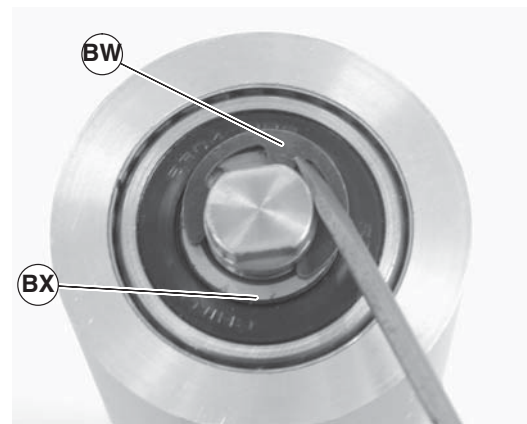

Figure 52
5. Remove the pulley shaft assembly: remove the clip ring (Figure 52, item BW) and washer (BX) from one side of the pulley assembly.